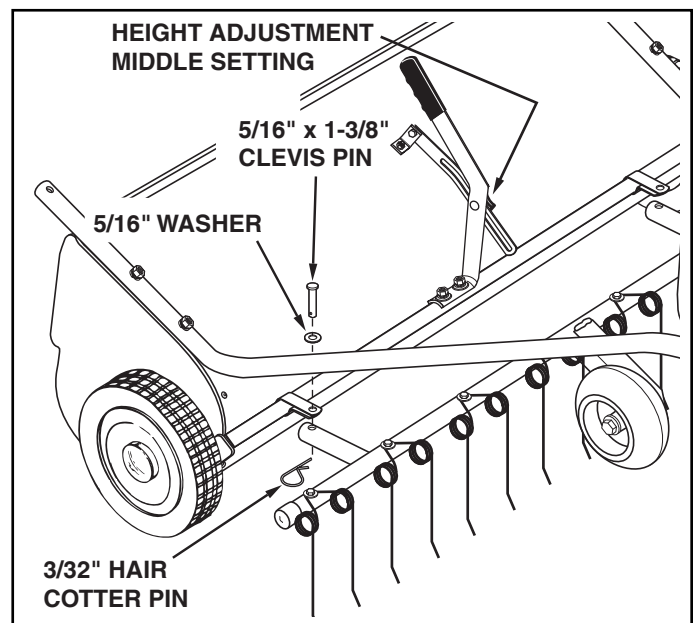

FIGURE 4
6. Connect the dethatcher to the conduit clamp using two 5/16" x 1-3/8" clevis pins, 5/16" washers and 3/32" hair cotter pins. See figure 4.